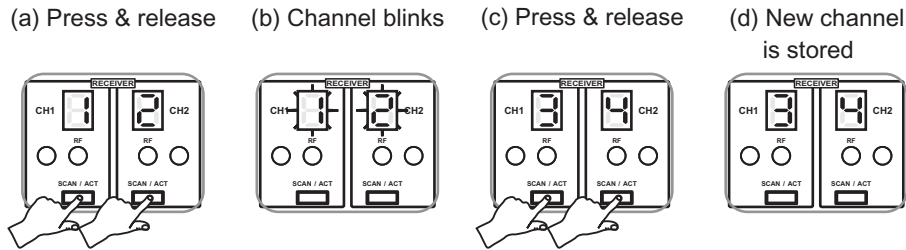

Fig. 3
- (1) To Scan for a Clear Receiver Channel: Press & hold the SCAN/ACT button  until current channel blinks. Release the button, blinks will last for 10 times and stop on the current channel. During blinking, press & release the SCAN/ACT button again and the receiver scans and sets at a clear channel automatically. Then the new channel will be stored, Fig. 3.